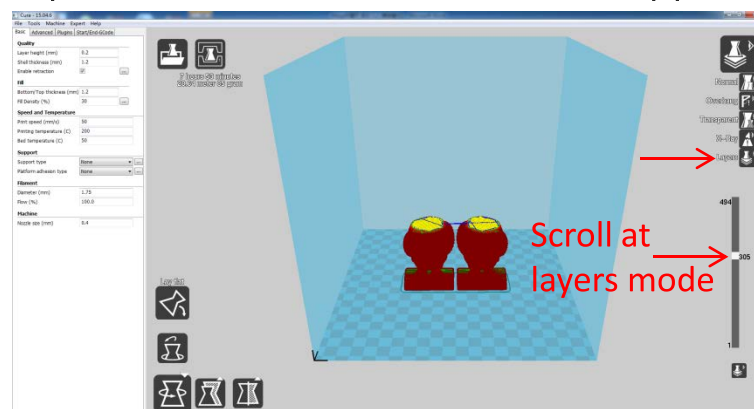

Figure 23
(6) View mode (Fig. 23): to view the model in different ways and helps to spotting issues before print starts. Such as "Layers" mode: to view the toolpath of the print head to check if there are skipped layers or gaps.
>Re-open the Gcode file again in Cura to confirm that all slices of the model have been included by check it in the "Layers view" (refer to previous Fig. 23).